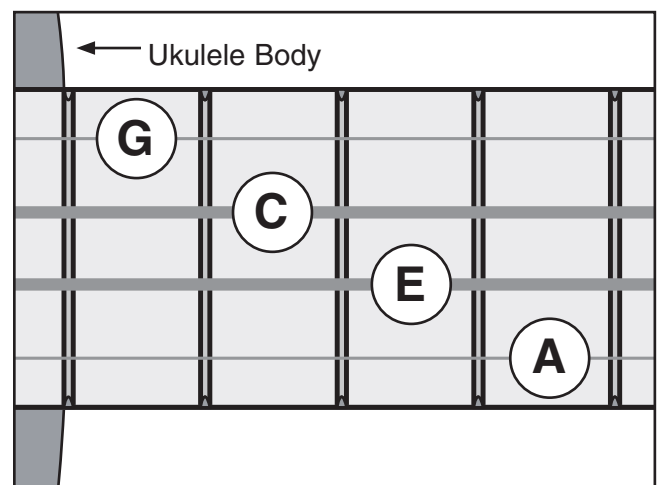

Figure 26. Standard tuning notes.
- The goal when tuning is to make the strings in tune with one another. Standard tuning is shown in **Figure 26**.